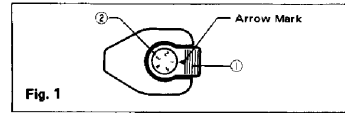

Fig. 1
4. Select the volume to be dispensed by turning the volume adjustment dial to the appropriate number. (Fig. 1)